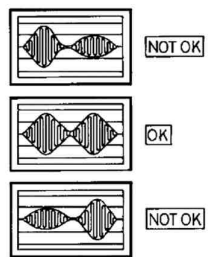

Fig. 3 39 578 A12
- Check that the cat's eye pattern (see figure 3) is visible on track 40.